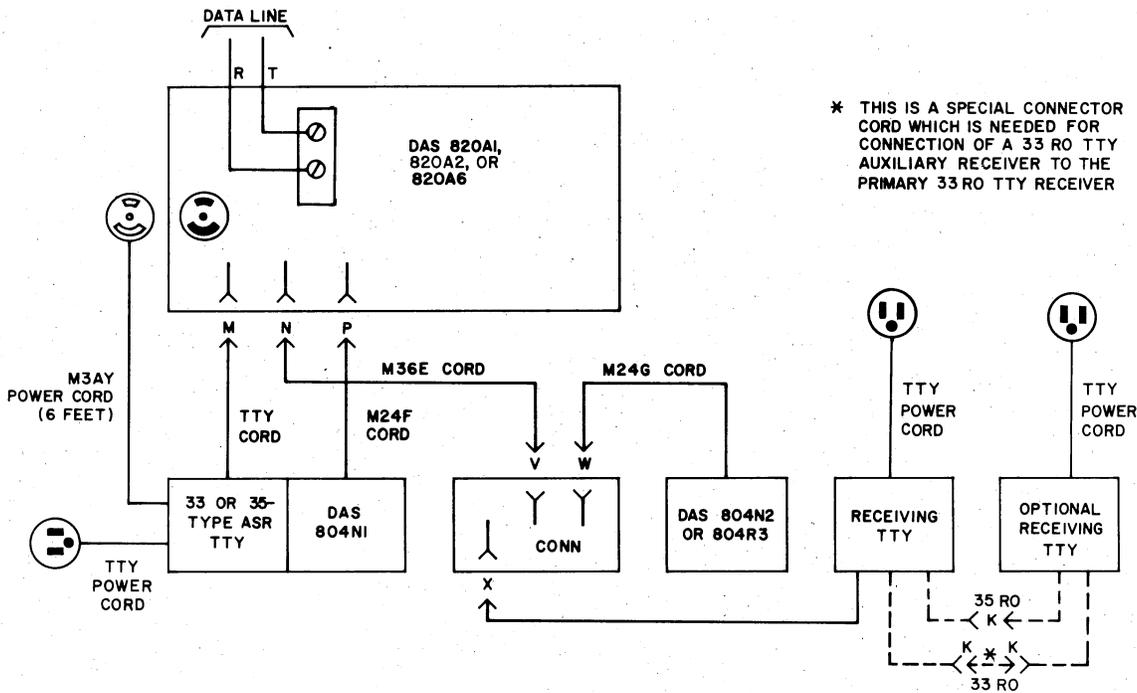
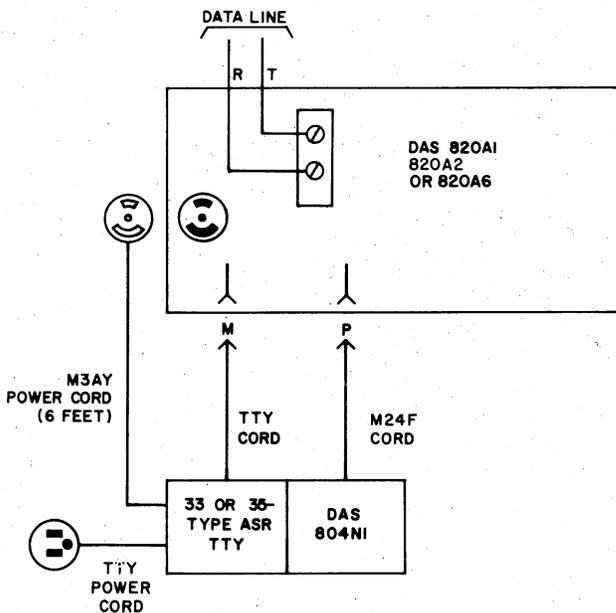
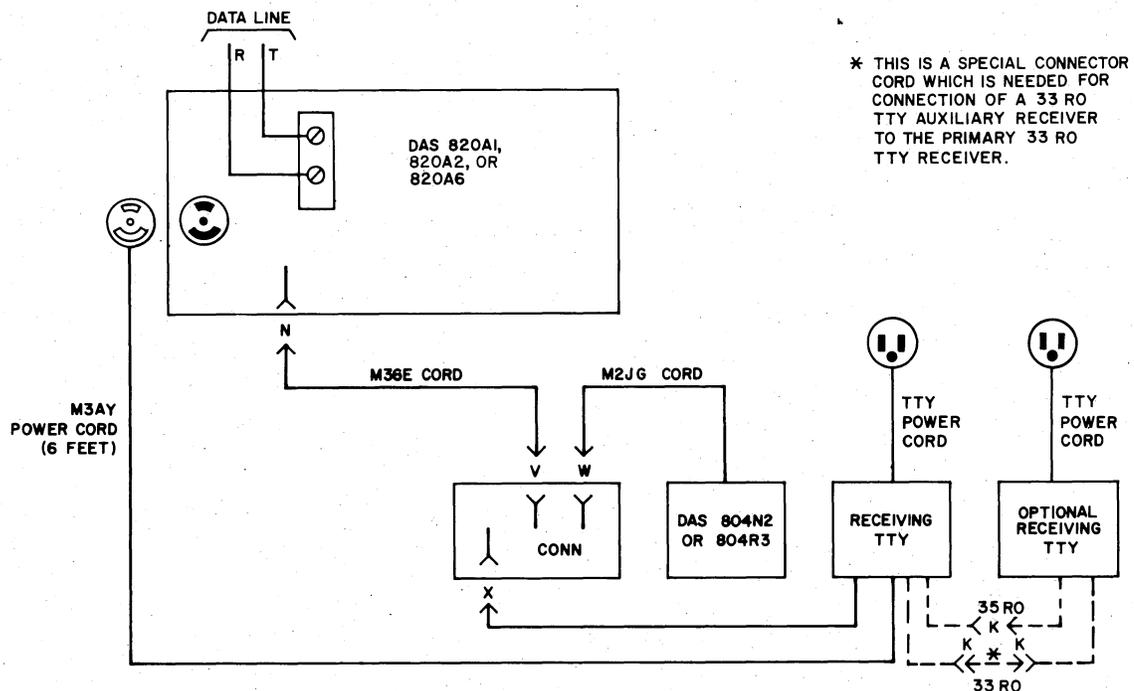

Fig. 6—Interconnections for 33- and/or 35-Type ORIG/TERM Station
Fig. 7—Interconnections for 33- and/or 35-Type Originate Only Station
Fig. 8—Interconnections for 33- and/or 35-Type Terminate Only Station
3.01 The interconnection of the 33- and/or 35-type TTY station is shown in Fig. 6, 7, and 8. The figures are shown for a primary station (with or without auxiliary TTY). Fig. 6 illustrates an originate/terminate station, Fig. 7 illustrates an originate only station, and Fig. 8 illustrates a terminate only station.